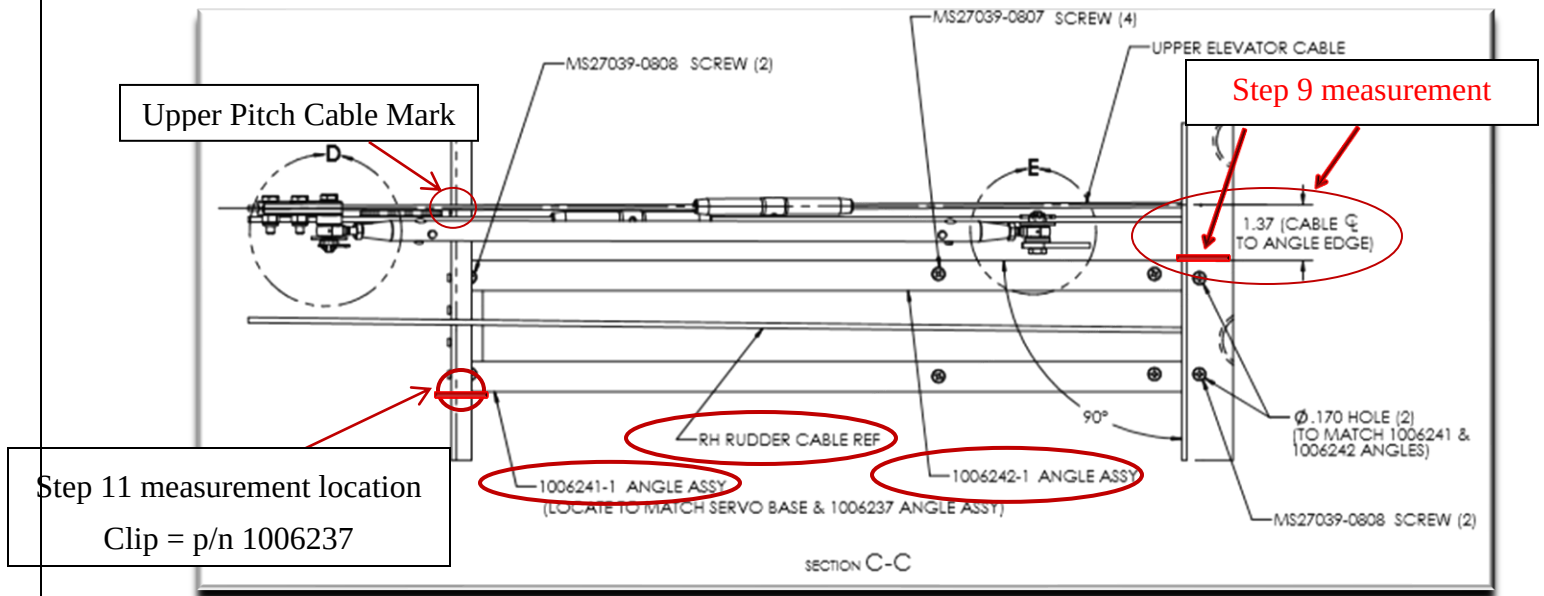

FIGURE 3-3 (TOP VIEW) PITCH SERVO BRACKET ASSEMBLY
8. The port edge of the pitch servo bracket is located 1.37 inches from the cable. Mark F.S. 124.00 with this measurement. **This is a critical measurement.** Refer to Figure 3-3.
10. This measurement defines the right most edge of clip, P/N 1006237. Refer to Figures 3-3, 3-4, & 3-5.
17. Recheck positioning to agree with the dimensions depicted in Figure 3-3.